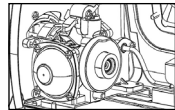

Fig. 3
3. Check the surface of the gas cartridge holder for particles (magnetic dust, etc.) and remove these with adhesive tape if necessary [Fig. 3].